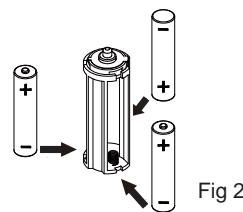

Fig 2
2. Insert 3 AAA size batteries following the orientation shown on the battery holder (2) (see Fig 2).